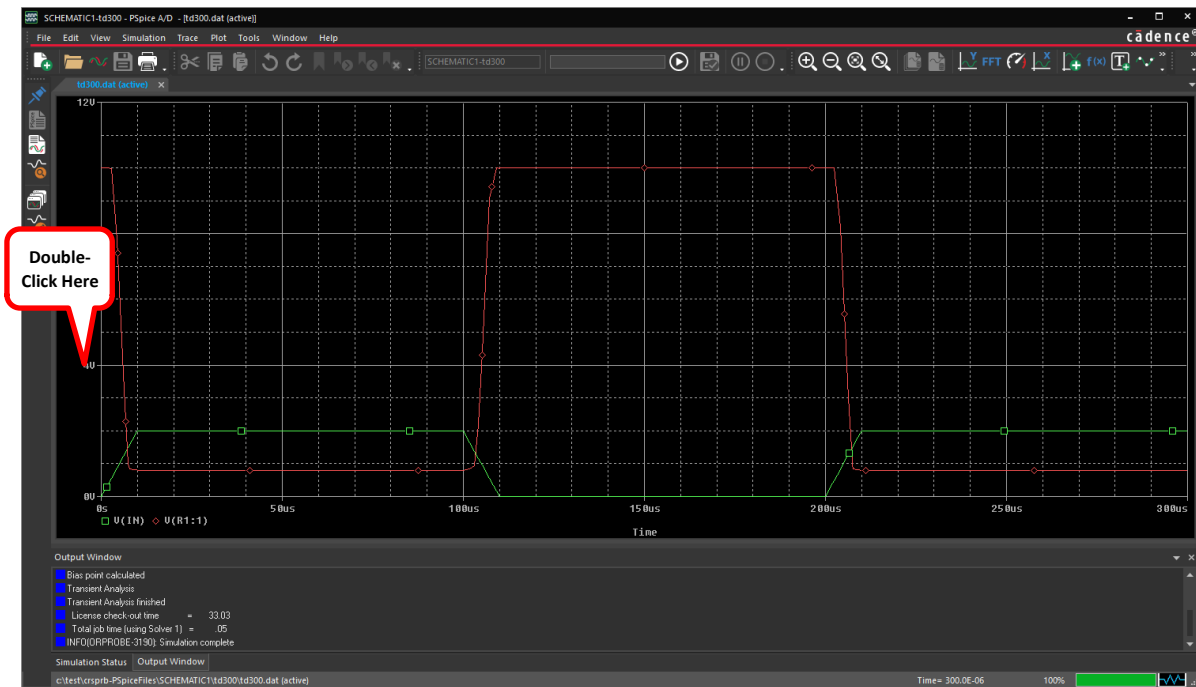

Figure 2-21: Alternate Display Mode
29. Double-click in the left margin of the Probe window to invoke the Axis Settings form, as shown in Figure 2-21.